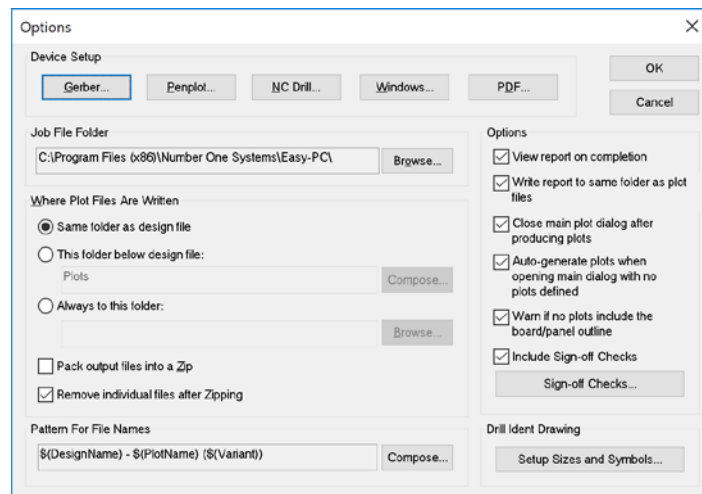

Figure 4 Plotting & Printing Options Dialog
6. Click the “Options” button near the top right corner of the plotting & printing dialog box to display the “Options” dialog as shown in Figure 4.